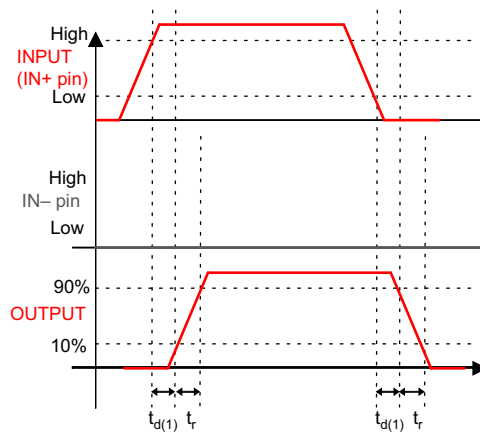
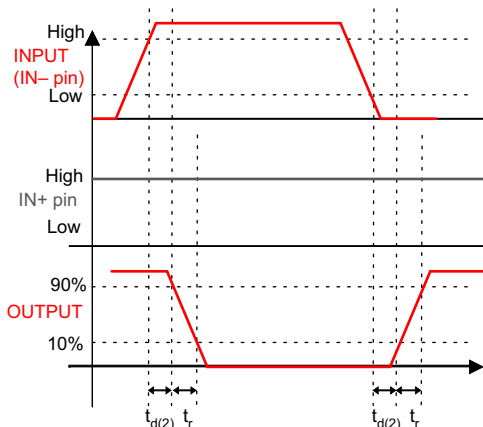

Figure 1. Non-Inverting Configuration (PWM Input to IN+ pin (IN- Pin Tied to GND), Output Represents OUTH and OUTL Pins Tied Together in the UCC27511A-Q1)
Figure 2. Inverting Configuration (PWM Input to IN– Pin (IN+ Pin Tied to V_{DD}), Output Represents OUTH and OUTL Pins Tied Together in the UCC27511A-Q1)
$V_{DD} = 12\text{ V}$, $T_A = T_J = -40^\circ\text{C}$ to 140°C , $1\text{-}\mu\text{F}$ capacitor from V_{DD} to GND. Currents are positive into, negative out of the specified terminal. See Figure 1, Figure 2, Figure 3, and Figure 4
(1) See timing diagrams in Figure 1, Figure 2, Figure 3, and Figure 4.